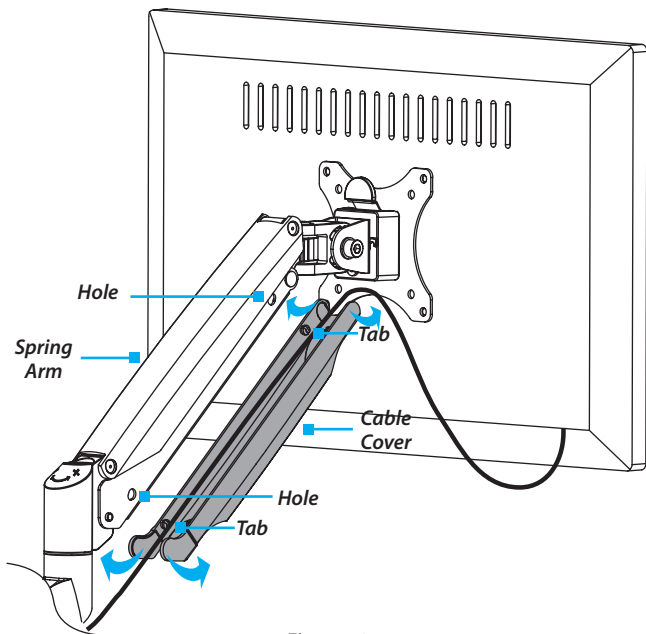

Figure 18
4. To reattach the **Cable Cover**, pull out the ends of the **Cable Cover** and insert the **Tabs** on the inside of the **Cable Cover** into the **Holes** on the **Spring Arm**. (Figure 18)